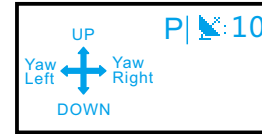

Figure 10-1: Mode 1
① The left joystick displays the functional mode of the remote controller
- Under Mode 1 (See Figure 10-1), the drone can execute commands for ascent,descent,left turn,and right turn.